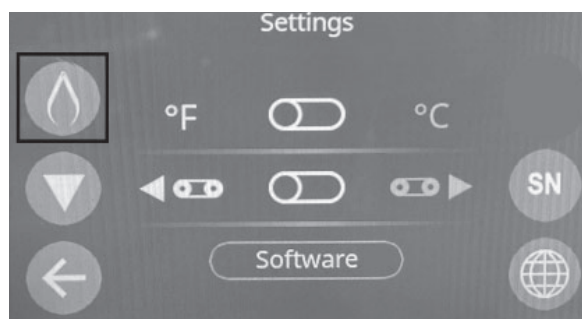

Figure 33
9. Temperature Calibration – From the settings main menu click the temperature calibration button, highlighted below in (Figure 33).